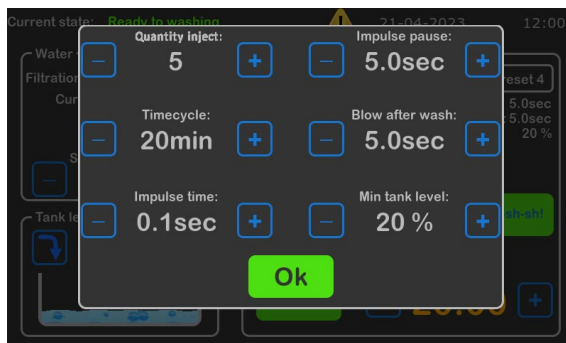

Figure 10
- 5 – Saved flushing parameters. Long-pressing the button opens the settings menu (see Fig. 10).
The flushing process settings window allows the configuration of the following parameters (see Fig. 10):